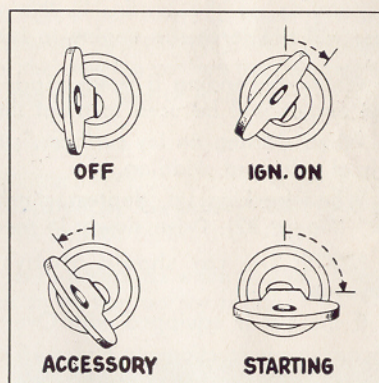

Figure 31
4. Turn the ignition key to the extreme right (starting) position to engage the starter, Figure 31. When the engine starts, release the pressure on the key and the key will return automatically to the (ignition on) running position.